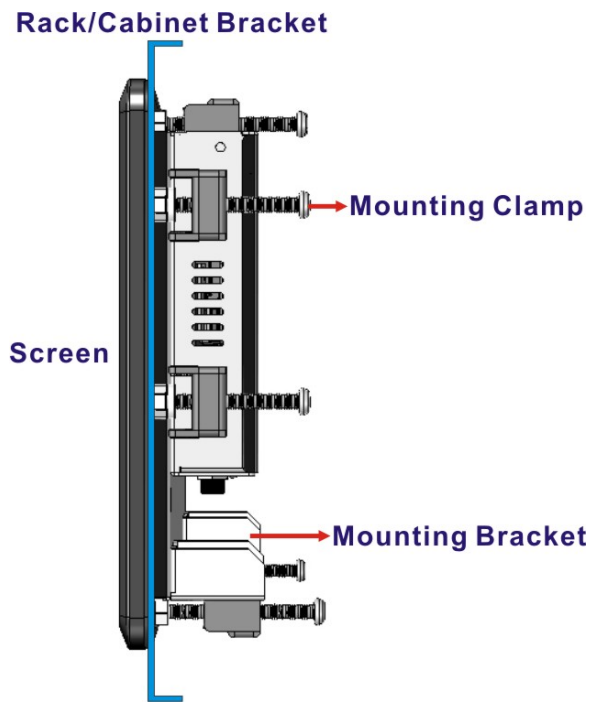

Figure 3-21: Secure the Rack/Cabinet Bracket
**Step 3:** Insert the mounting clamps into the mounting brackets and pre-formed holes along the edges of the PPC-F08B/F10B-BT, behind the aluminum frame (**Figure 3-21**). There are a total of eight mounting clamps required.
**Step 4:** Tighten the screws that pass through the mounting clamps until the plastic caps at the front of all the screws are firmly secured to the bracket (**Figure 3-21**).